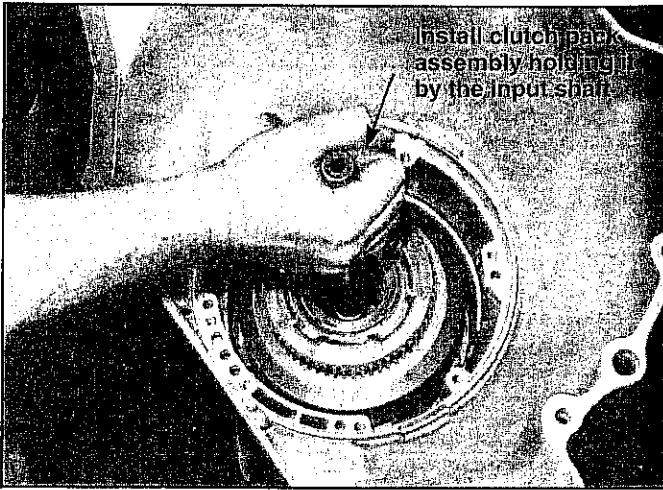

FIGURE 49
STEP 18. Install the clutch pack assembly into the transmission. (See Fig 49) Pick the assembly up by the input shaft and lower it into the transmission. Do not stand the transmission on the output shaft. Rotate clutch pack assembly to engage forward clutches into input ring gear. You will be able to count the clutches as they engage the input ring gear. The ears of the direct clutch drum must engage the drive shell slots.